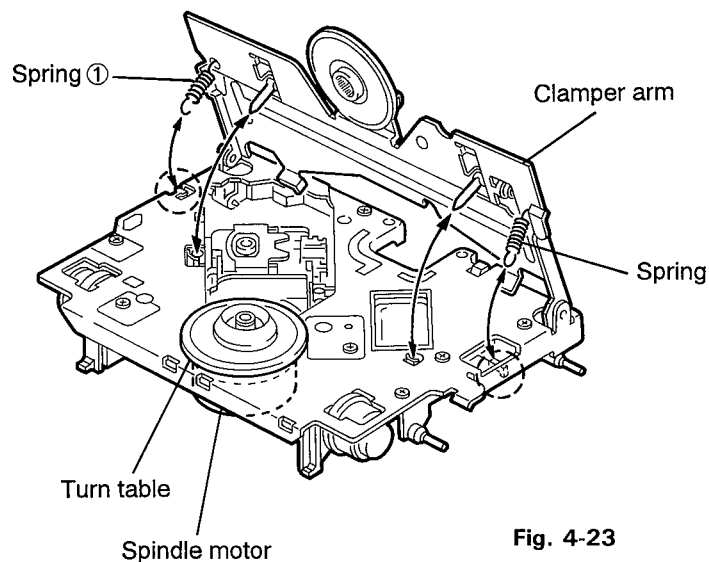

Fig. 4-23
1. After turning back the CD mechanism to initial position, remove the two springs ⑩ and ① on both the right and left sides of the clamper arm (See Figs. 4-23 and 4-24).